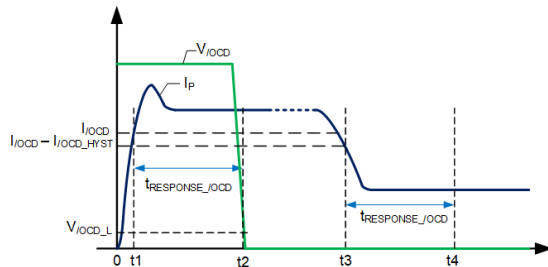

Figure 8: /OCD Timing
Figure 8 shows the OCD timing. If I_P reaches the $I_{/OCD}$ and stays at this value for longer than $t_{RESPONSE_/OCD}$, the /OCD pin's voltage ($V_{/OCD}$) pulls down to $V_{/OCD_L}$. When I_P goes below $I_{/OCD} - I_{/OCD_HYST}$ over another $t_{RESPONSE_/OCD}$, $V_{/OCD}$ starts to rise. $t_{/OCD_RISE}$ is the $V_{/OCD}$ rising time from logic low to logic high, and it is dependent on the pull-up resistor (R_{PULLUP}) value and the capacitance from the /OCD pin to GND. A small resistor-capacitor (RC) results in a faster rise time.